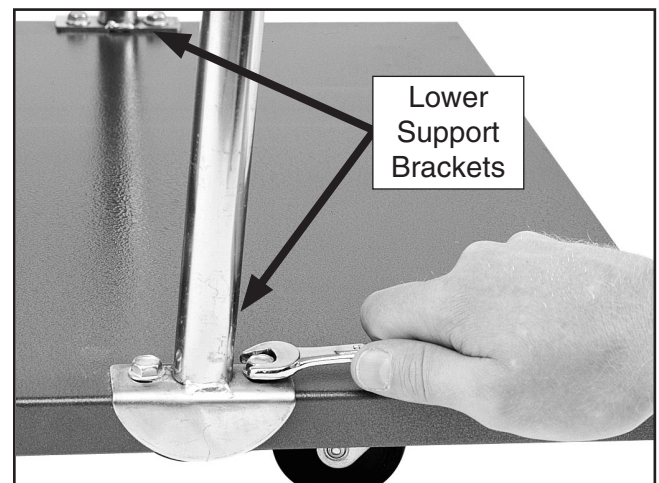

Figure 8. Mounting support bracket to base.
4. Attach the lower collector support brackets to the top edge of the base plate using (4) $\frac{5}{16}$ "-18 x $\frac{1}{2}$ " flange bolts, as shown in **Figure 8**.